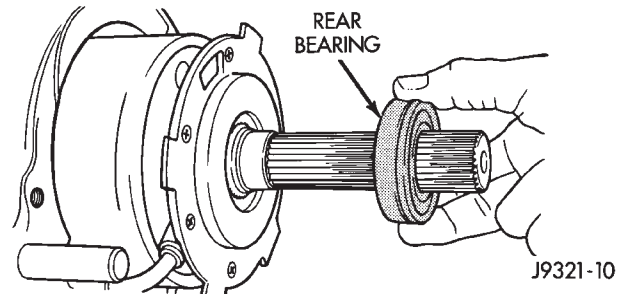

Fig. 10 Removing Rear Bearing
(10) Remove rear bearing (Fig. 10). Note position of bearing locating ring groove for assembly reference.